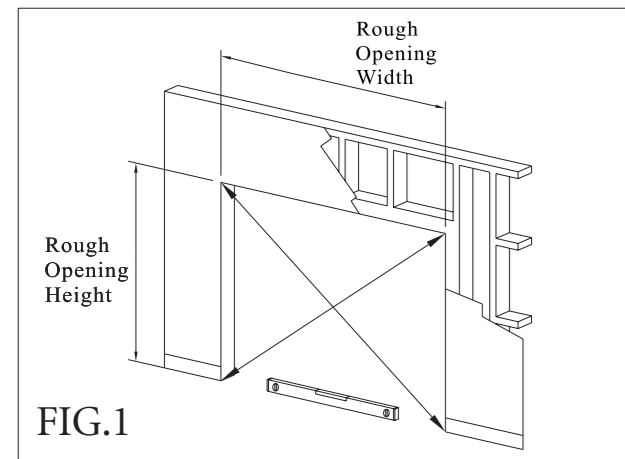

FIG.1
- Check sill for level and smooth. Clean away all debris before setting door assembly. (See Fig.1)
- Check rough opening for plumb and square by measuring diagonal. If it is not, correct as necessary. (See Fig.1)